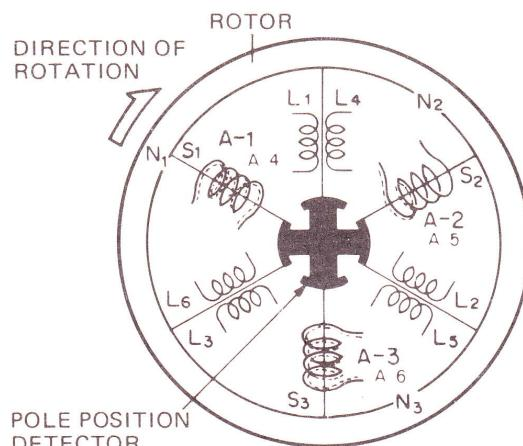

Fig. 1
3. Q_{109} in turn conducts and causes current to flow in the associated drive coil ($A-1$). The rotor moves in the direction shown by arrow in Fig. 1. The magnetic pole affixed to the rotor induces a voltage proportional to rotor movement, in the sensing coil ($A-4$).
Fig. 1 shows a simplified view of the drive and sense coils. With power applied and coupling between L_1 and L_4 high, Q_{109} causes current to flow through $A-1$. As a result, the rotor end of coil $A-1$ becomes a south pole (S_1) and attracts N_1 . The rotor moves in the direction shown by arrow. Coupling factor between L_2 and L_5 increases and operation of Q_{110} causes current to flow in coil $A-2$. Pole S_2 attracts pole N_2 and rotor rotation continues. In the same manner, S_3 attracts Pole N_3 . Continuation of this process causes the rotor to turn on a steady basis.